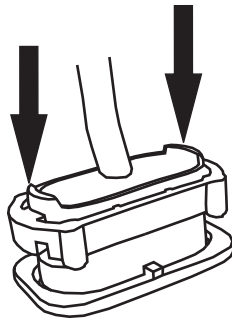

Fig. 6
- 7) Press the top ring once again on both sides as shown in Fig. 6 so that the top ring will be locked in the bottom notches and the sensor module will be firmly locked in its place.